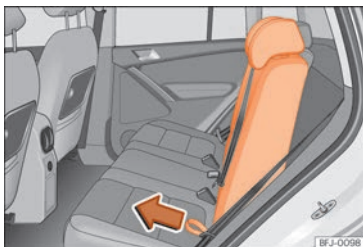

Fig. 93 Folding down and lifting the rear seat backrest
- Pull the cord >>> Fig. 93 forward in the direction of the arrow while holding the seat backrest and move it forward slowly >>> ⚠.